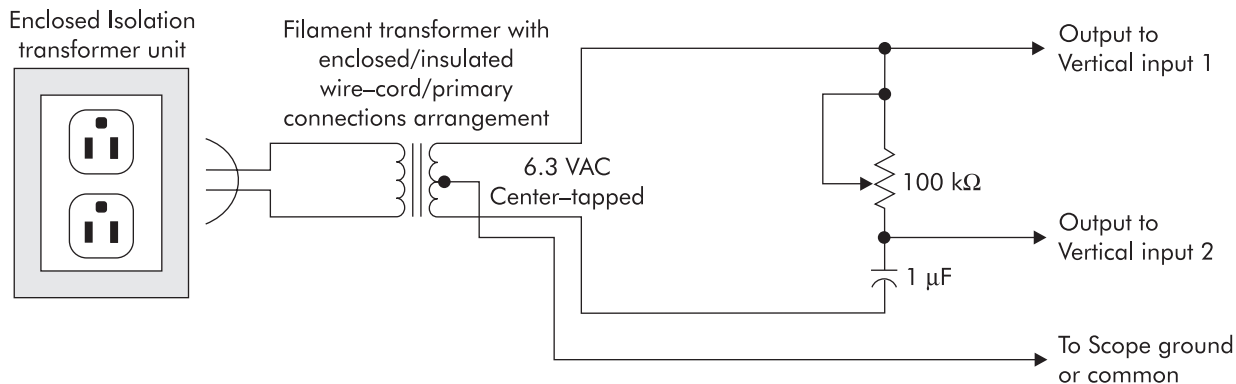

FIGURE 38-1 Variable phase-shift network
1. Connect the variable phase shift circuit shown in Figure 38-1.
4. Change the setting on the 100-k Ω potentiometer enough to see a noticeable change in the phase and repeat steps 2 and 3 from the previous diagram in Figure 38-1.